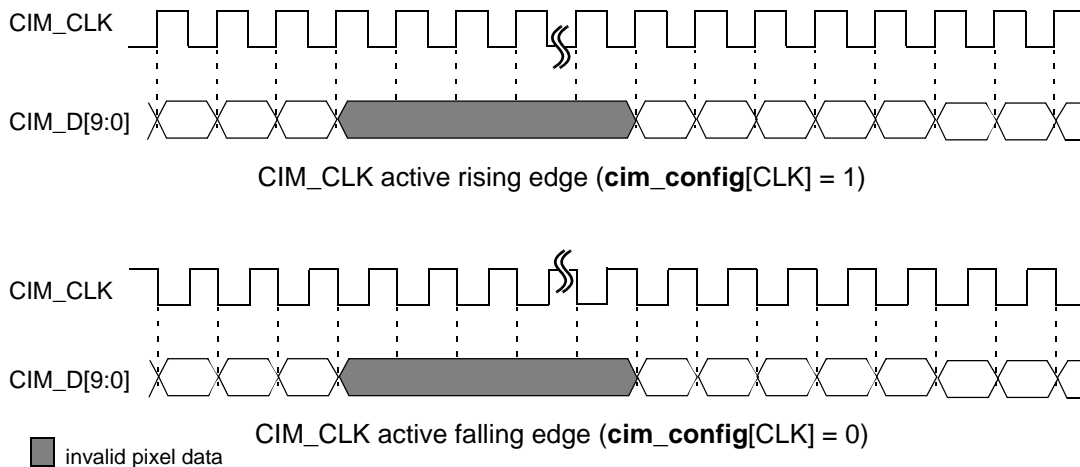

Figure 9-2. CIM_CLK Free-running Mode (`cim_config[PUL] = 0`)
- In *free-running* mode (`cim_config[PUL] = 0`), CIM_CLK is always running at a fixed frequency. As shown in Figure 9-2, pixel data arriving on CIM_D[9:0] is synchronized to the specified active edge of the clock.